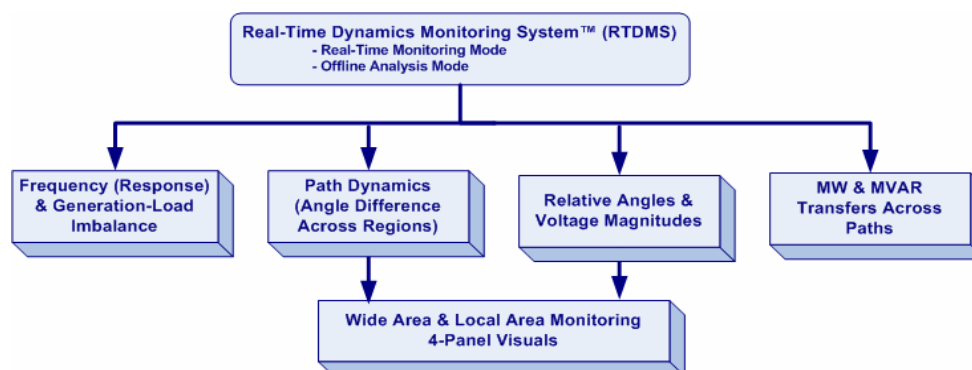

Figure 8: RTDMS Visualization Overview
The visualization overview shown in Figure 8 lays out the displays available to the user. Whether in Real-Time (i.e., streaming data) or Offline (i.e. archived event files) monitoring modes, each of the following five (5) displays: “Frequency (Response)”, “Path Dynamics” (Angle Differences Across Regions), “Relative Angle/Voltage Magnitude”, “Path Flow – MW” and “Path Flow – MVAR” are available within the application and can be utilized by the user by selecting the applicable data visualization. The “Wide Area” and “Local Area” monitoring capabilities available for some of the displays present the data in different forms and therefore allow for better analysis of the data.